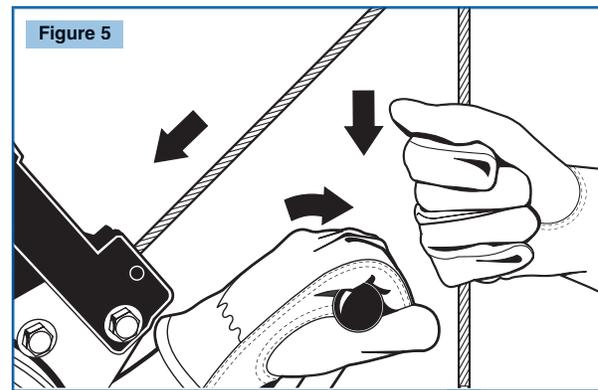

Figure 5
5. While maintaining downward pressure on the cable, **activate recovery operation** (see Operation Procedures for your system in the instructions packed with the product) and crank about one foot of cable back into the housing. (See Fig. 5)